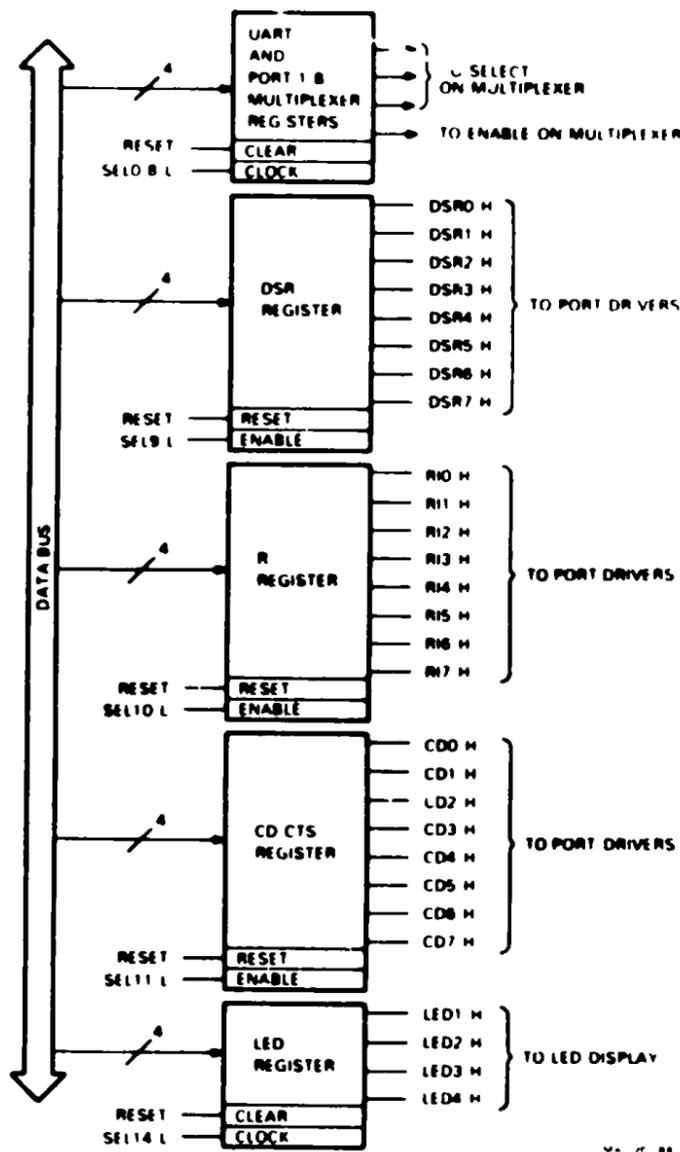

Figure 2-13 Write Control Registers with Data Bus
Figure 2-13 shows the write control registers with their select signals and the data bus. Refer to this figure for the following discussion.
2.3.7.1 Multiplexer Control Registers (Figure 2-13) - These registers are quad edge-triggered D flip-flops. There is one control register for each of the nine multiplexers on the logic board - eight for the port multiplexers and one for the UART multiplexer. Select signals SEL0 through SEL8 enable each of these control registers. When selected, the data from the data bus is latched at the output lines of the register. This data from the register is used to enable and select a port on the corresponding multiplexer.